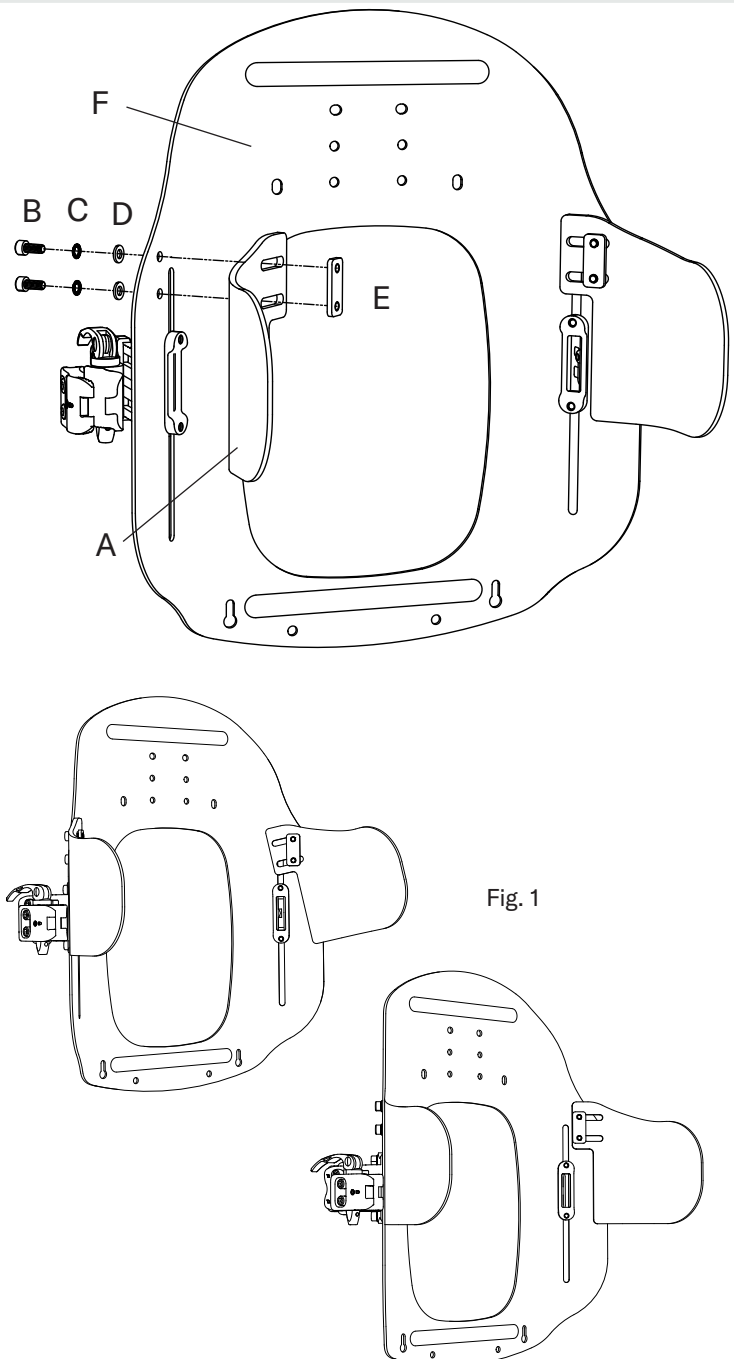

Fig. 1
4. Adjust as needed: Use the 5 mm hex key to loosen the screws and adjust for rotation or medial-lateral positioning. [Fig. 1] Re-tighten the screws until secure.